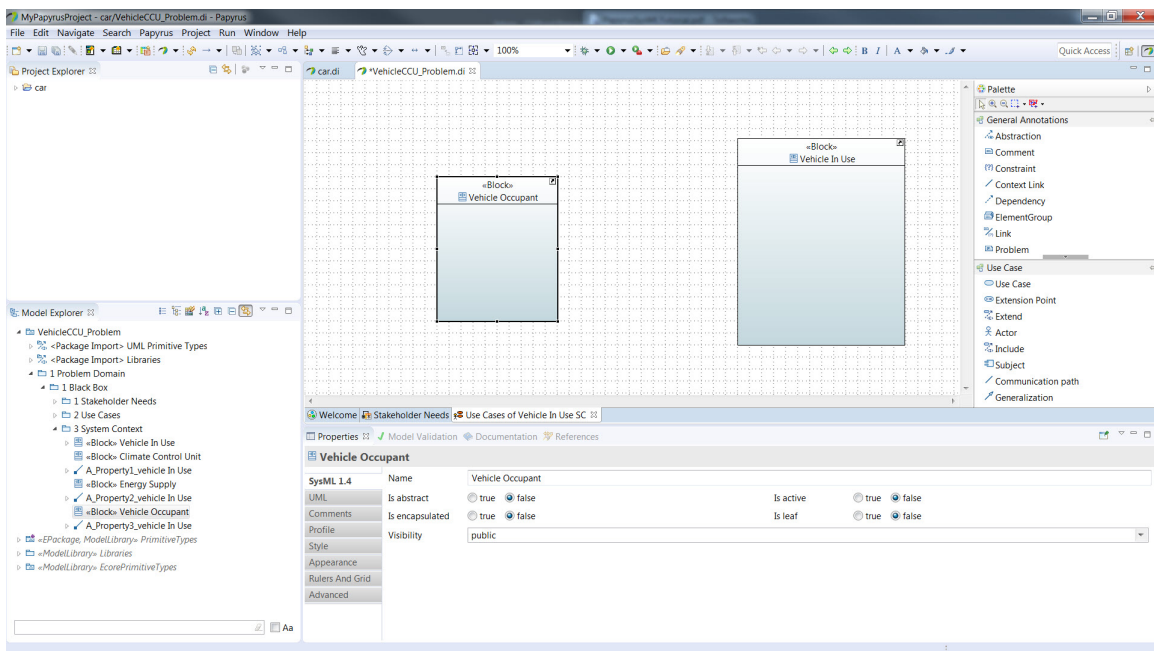

Figure 30: Vehicle Occupant block in Use Case Diagram
- Click and Drag the *Vehicle Occupant* block onto the *Use Cases of Vehicle In Use* use case diagram in the main window. A copy of the block should appear in the use case diagram (figure 30).